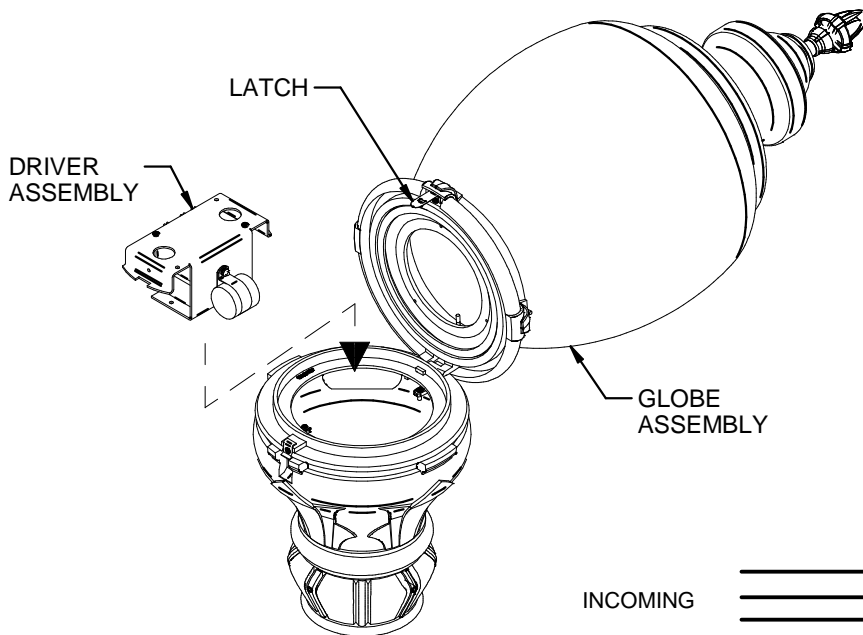

FIG. 4-1
1. TILT GLOBE ASSEMBLY TO THE SIDE BY PULLING LATCH BACKWARD. (FIG. 4-1)
2. INSTALL DRIVER ASSY. (FIG. 4-1)